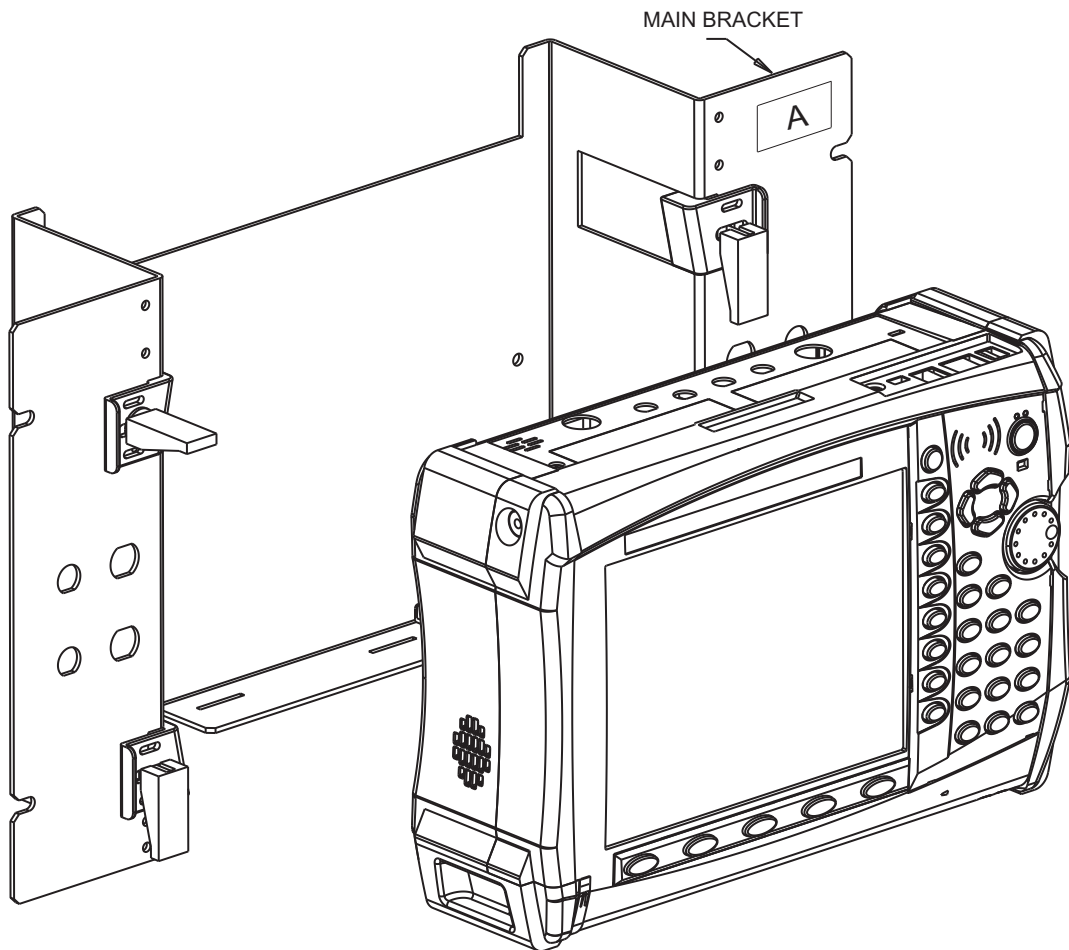

Figure 1-4. Rack Mount with Thick-Case Instrument
- 2. Remove any spacers (if installed) from the Main Bracket (A) and save for future use.
- 3. Loosen the four latching brackets on the rack (refer to Figure 1-4) by lifting up the latch handles.²